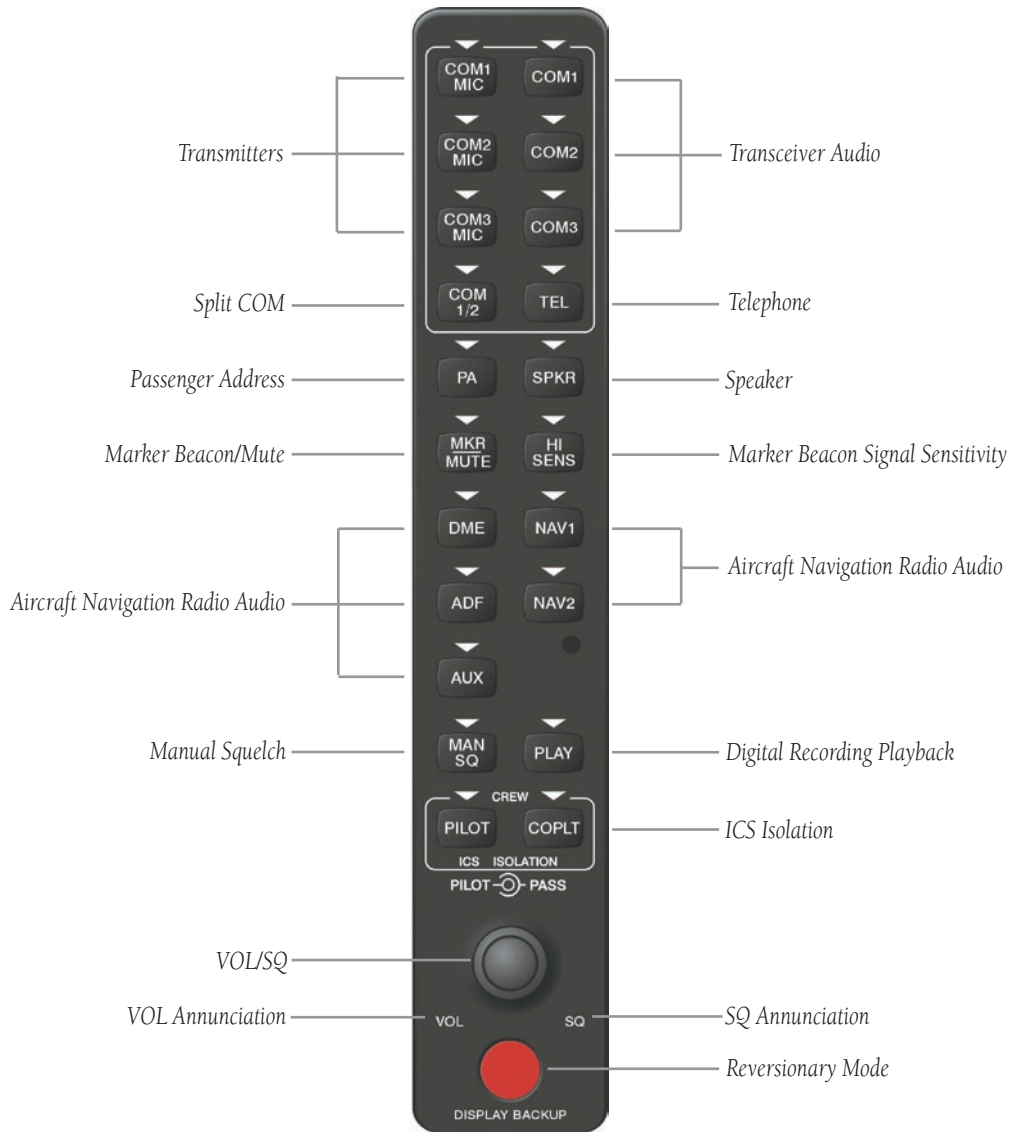

Figure 3-1 Front Panel Controls
The GMA 1347 Audio Panel features the following three (3) major groups of keys in descending order, as shown in Figure 3-1: